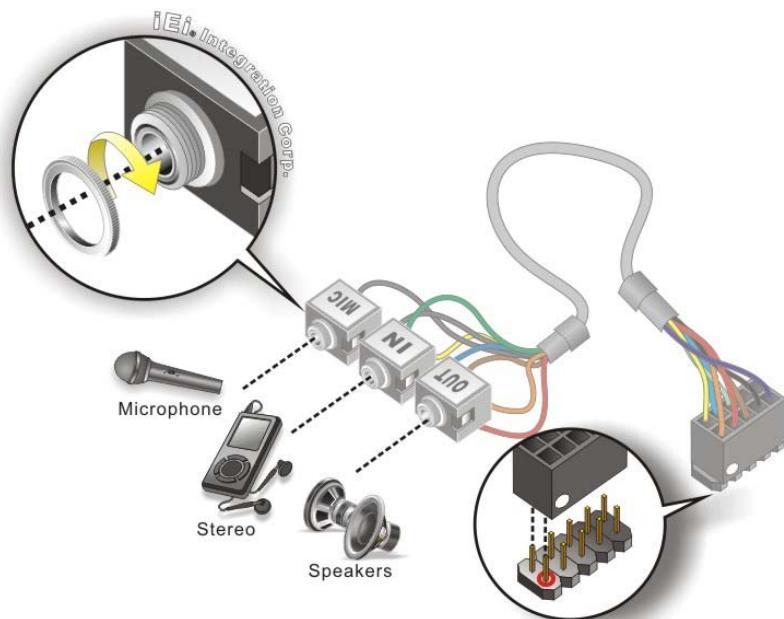

Figure 4-15: Audio Kit Cable Connection
**Step 2: Align pin 1.** Align pin 1 on the on-board connector with pin 1 on the audio kit connector. Pin 1 on the audio kit connector is indicated with a white dot. See Figure 4-15.